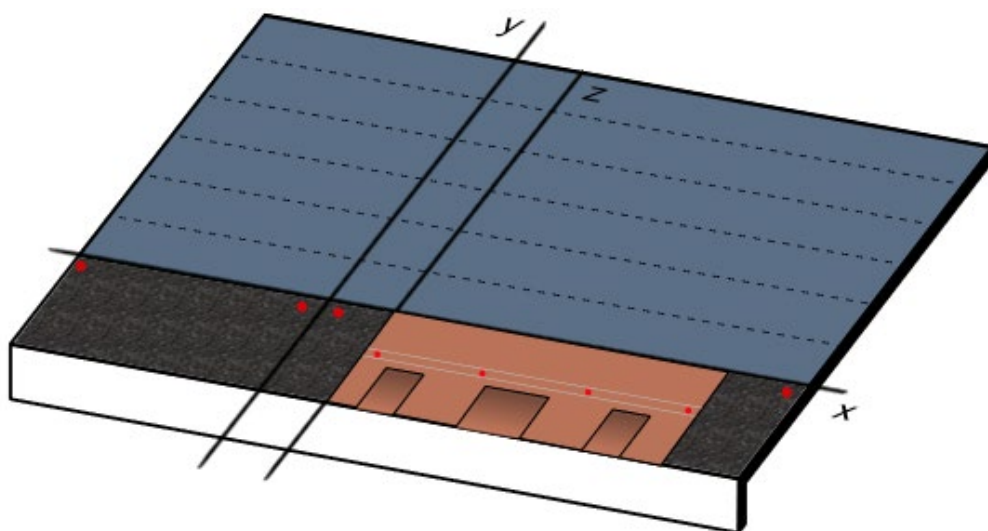
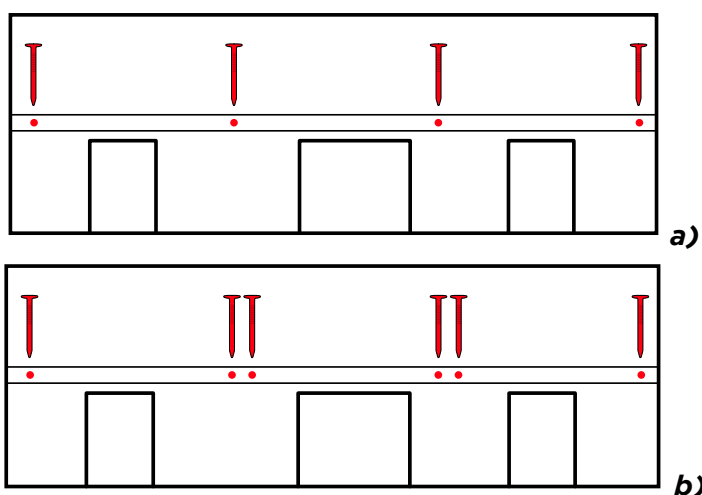

Fig. 7 - Shingles installation
Fig. 8 - Shingle nailing a) slopes <60°; b) slopes >60°
- Then, proceed with the installation of the shingles of the starting row: align the lateral edge of the Start Line SA on the vertical **y** and the upper edge on the horizontal **x**. Remove the protective backing film and fix the Start Line SA with nails placed at the upper ends. – Fig. 7. Position and nail the Start Line SA adjacent to each other, until all the pitch is completed.
- Proceed with the installation of the first row of shingles: align the lateral edge of the first shingle on the vertical **z** and the upper edge on the horizontal **x** – Fig. 7. Nail the shingle to the substrate by placing 4 nails per shingle, between the two white lines, as per Fig. 8 a). In the event of pitched s between 60° and 85°, place 2 additional nails close to the second and third nail, for a total of 6 nails per shingle, as per Fig. 8 b). Proceed by placing all the shingles in the first row.